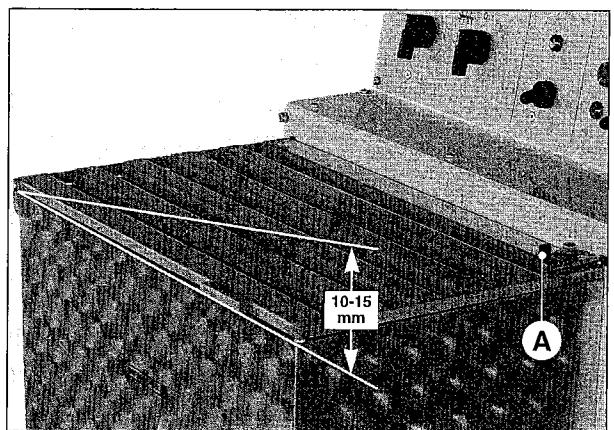

Fig. 33
- Check the efficiency of the double safety device on the lid. The device sets off two micro-switches; one is controlled by the lid hook (Fig. 33 A), inside the stop slot; and the other from the lid itself.
- To check this, make sure that microswitch in the slot begins to be enabled when the hook has not yet gone out of the slot itself. The lid microswitch must be heard to click when the lid is lifted approx. 10 - 15 mm. (Fig. 33).